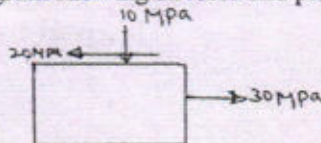

Fig. Q3(b)
b. The state of stress at a point in a strained material is as shown in the Fig. Q3 (b) Determine (i) Principal stresses and principal planes (ii) Max shear stress and its plane (iii) Sketch the stress diagram showing stresses and planes. (10 Marks)